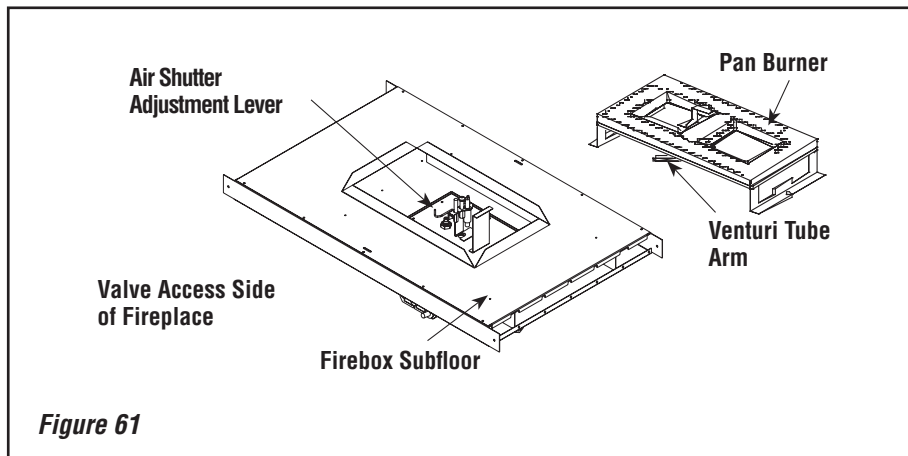

Figure 61
- b. Locate the two (2) latches at the top of the control compartment. To disengage the two latches from the bottom vee-flange of the glass enclosure panel, reach for the handles located towards the back of the latches and pull the handles down toward the front of the appliance.
Step 3. Referring to **Figure 61**, remove the burner.
Ensure that the arm of the venturi of the burner is hooked onto the air shutter adjustment lever (refer to **Figure 61 on Page 41**). The primary air opening can be adjusted by rotating the adjustment lever from beneath the firebox floor. Refer to **Figure 59 on Page 36** for the recommended minimum primary air shutter opening setting.